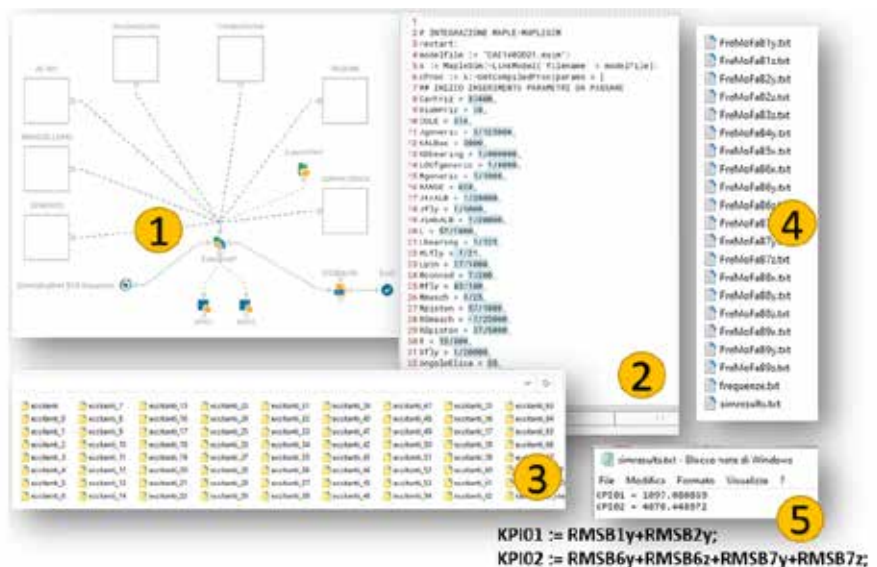

Fig. 6. The INNER3 process qualifies the Pareto designs from a vibrational point of view.
- INNER3: prepares and launches the multi-body model needed to calculate the excitants; a folder containing all the necessary information is created for each Pareto front design (see Fig.6).
the rotor side exerts on the structure and uses them to summarize certain qualitative indices of the vibration level: in particular, the transverse vibrations in mean effective value (RMS) measured on the bench bearings and tool-side bearings (KPI01 and KPI02) are evaluated (see Fig. 6).